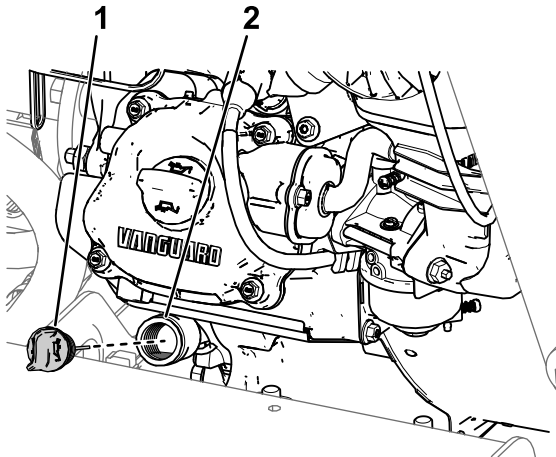

Figure 71
4. Remove the dipstick from the engine and wipe the dipstick with a clean rag (Figure 71).
8. Hand tighten the dipstick into the filler neck (Figure 71).